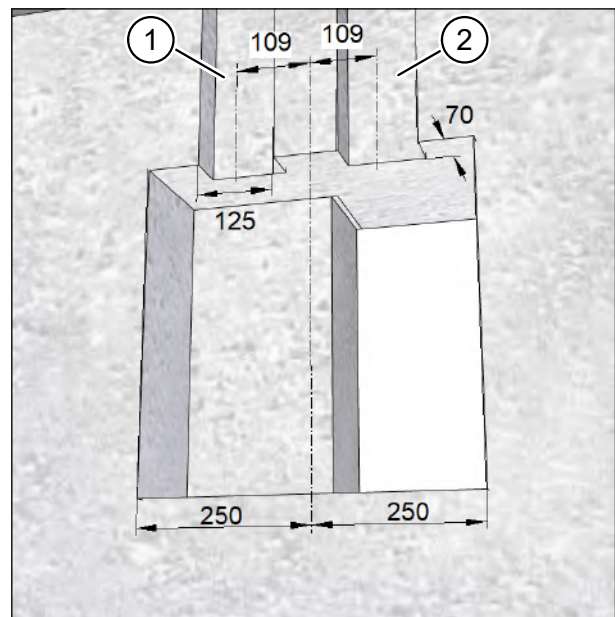

Fig. 12: Chasing out channels for flat ductwork connections, dimensions in millimetres
- ▶ Use the wall chaser to chase out **one** channel 125 mm wide and 70 mm deep (see Fig. 12) for either the extract air duct (item 1 in Fig. 12) **or** the supply air duct (item 2 in Fig. 12).
- ▶ Use the wall chaser to chase out **two** channels 125 mm wide and 70 mm deep (see Fig. 12) for either the extract air duct (item 1 in Fig. 12) **and** the supply air duct (item 2 in Fig. 12).